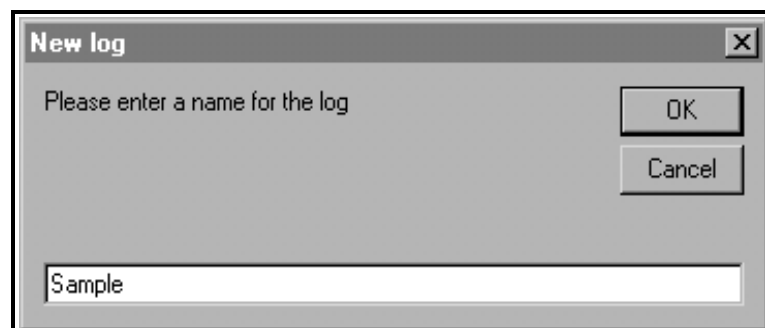

Figure 3-8: Log Name Dialog Box
5. Enter a log *file name* ("*Sample*" in this case) in the dialog box shown in Figure 3-8 below. Click on the [OK] option button.